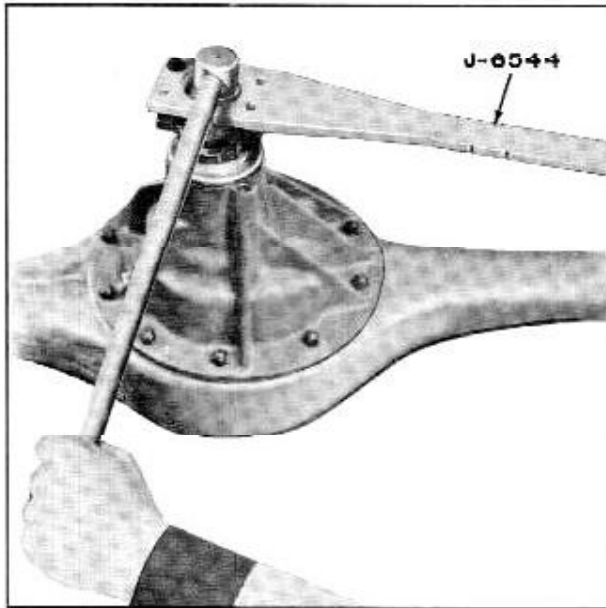

Fig. 6-8 Removing Companion Flange Nut
3. Remove companion flange nut, using Tool J-6544 to hold flange. (Fig. 6-8) Remove washer.
4. Remove companion flange nut using Holding Tool J-6544 to hold flange. (Fig. 6-8)